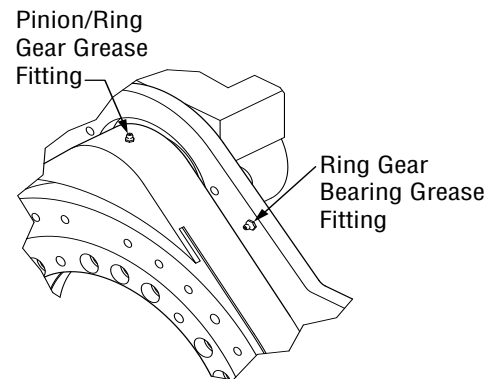

Figure 5-21, Grease Fitting Locations
4. To ensure proper greasing of gears and bearings, slowly rotate the ring gear 360° while greasing, this will allow grease to completely coat the gear. Gears must be fully greased. (Figure 5-21)